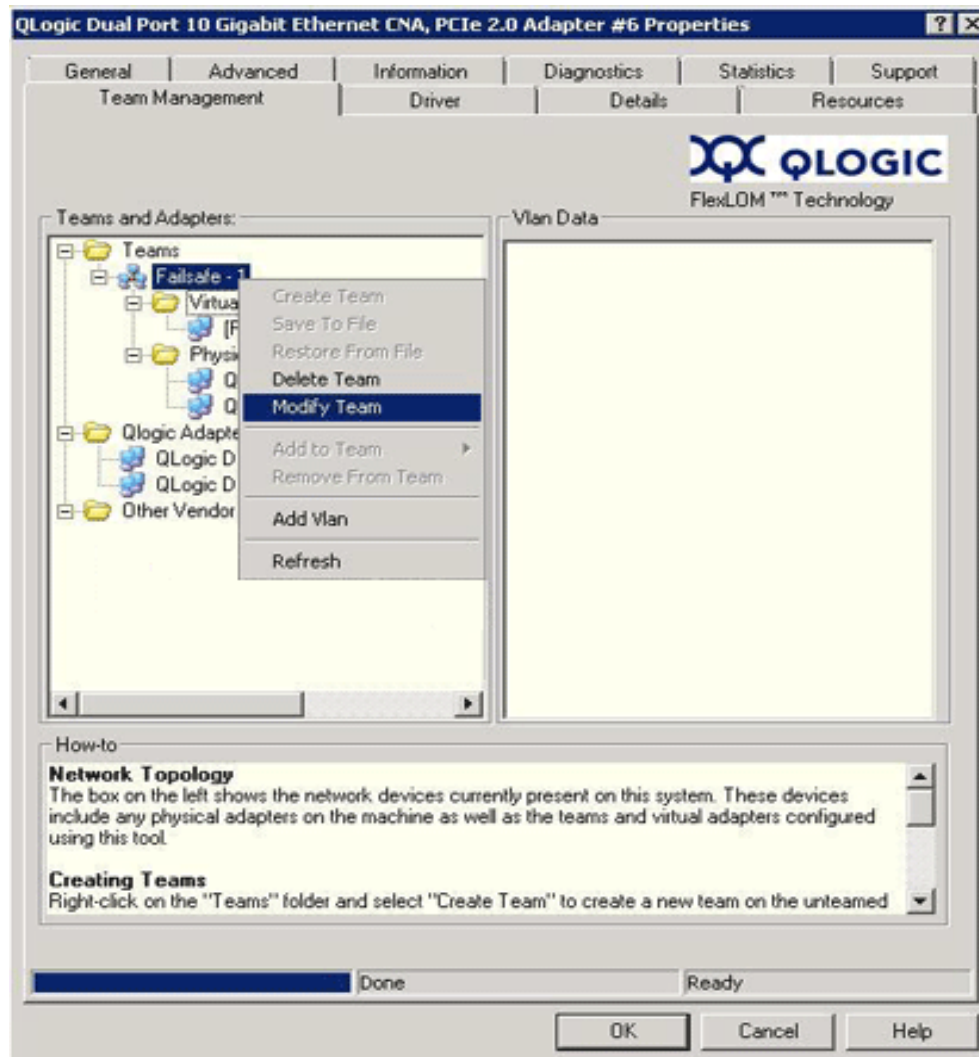

Figure 2-14. Modifying Team Properties
2. On the shortcut menu, click **Modify Team** (Figure 2-14).